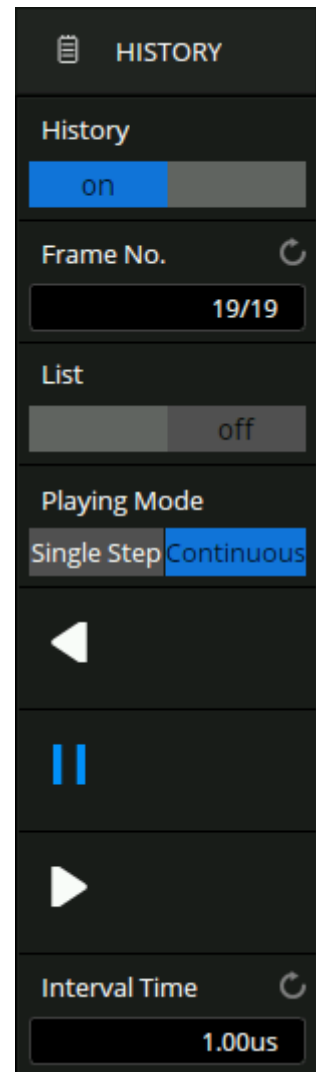

Figure 5.1 History Menu
- The history menu shown in figure 5.1 will be displayed.